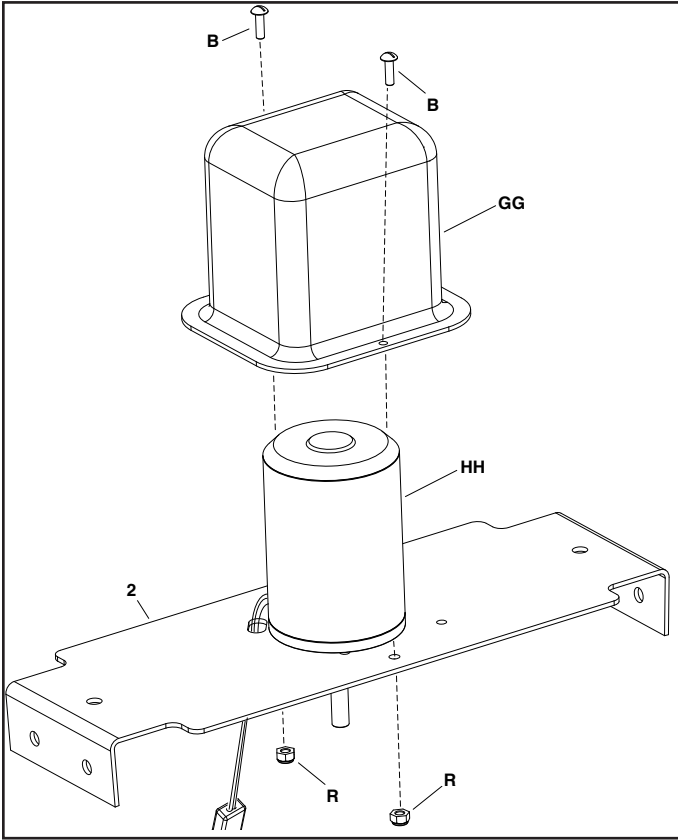

FIGURE 8
STEP 8: (SEE FIGURE 8)
- Place the motor cover (GG) over the 12V motor (HH) and lining up the holes.
- Install two slot bolts (B) through the motor cover (GG) and motor mount bracket (2). Then install two nylock hex nuts (R) onto the two slot bolts (B) and then tighten hardware.